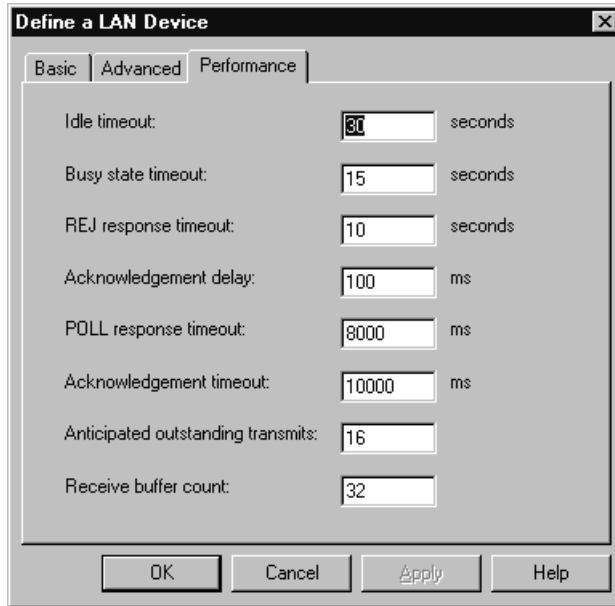

Figure 72. Define a LAN device window: performance page
- 7 On the Performance page, use the same values that are shown in the Figure 72.